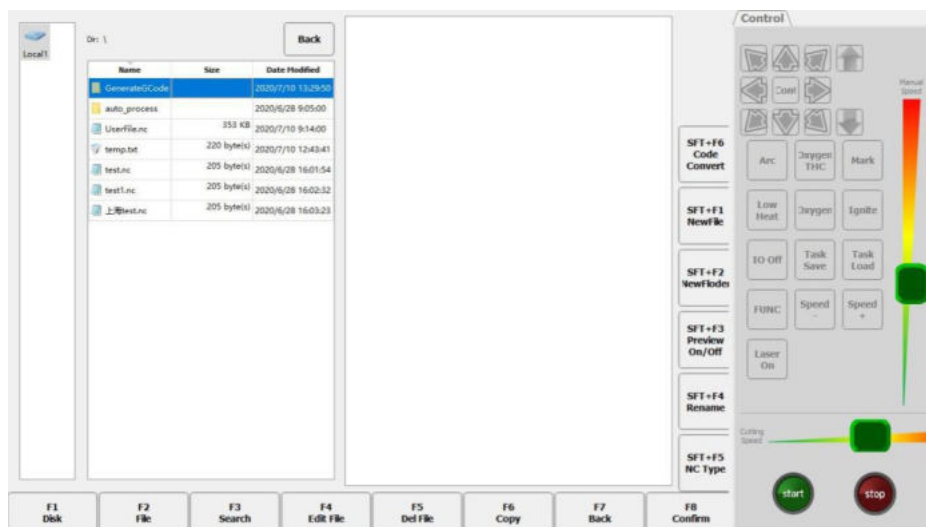

Figure 13.11, Load return interface
- After loading back, the resulting graphics code is saved in the GenerateGCode folder, as shown in Figure 13.11